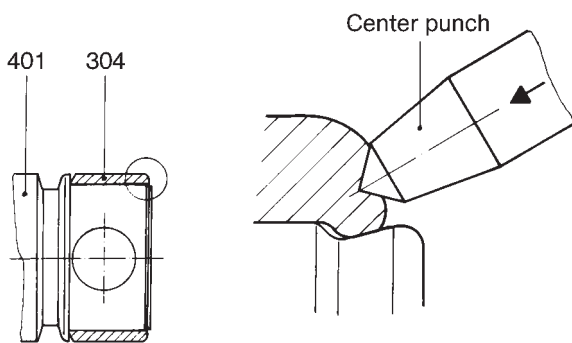

Figure 6: Locking the retaining sleeve.
**ATTENTION** Prior to mounting the hollow shaft (125), coat the entire surface of the drive shaft (118) and/or shaft of the drive with Klüber paste 46 MR 401 of Klüber, Munich. Mount hollow shaft (125), insert retaining pin (123) and secure with locking device for retaining pin (124), if any.
- With a brass drift, drive bushes for coupling rod pin (303) half-way into rotor (401).
- Push clamping bands (306), cover sleeves (308) and retaining sleeve (304) onto the shank of the coupling rod (307).
- Push coupling rod (307) into the head of the rotor (401).
- Push coupling rod pin (301) into the coupling rod (307), and drive in bushes for coupling rod pin (303) completely.
- Polish retaining sleeve (304) at the outside diameter, if necessary, with emery, and mount on the head of the rotor (401).
- Following mounting of the retaining sleeve (304), secure same against axial displacement on the head of the rotor (401).
**ATTENTION** For these purposes, drive face of the retaining sleeve (304) into the groove at the head of the rotor (401) with one punch mark (please refer to Figure 6 below).